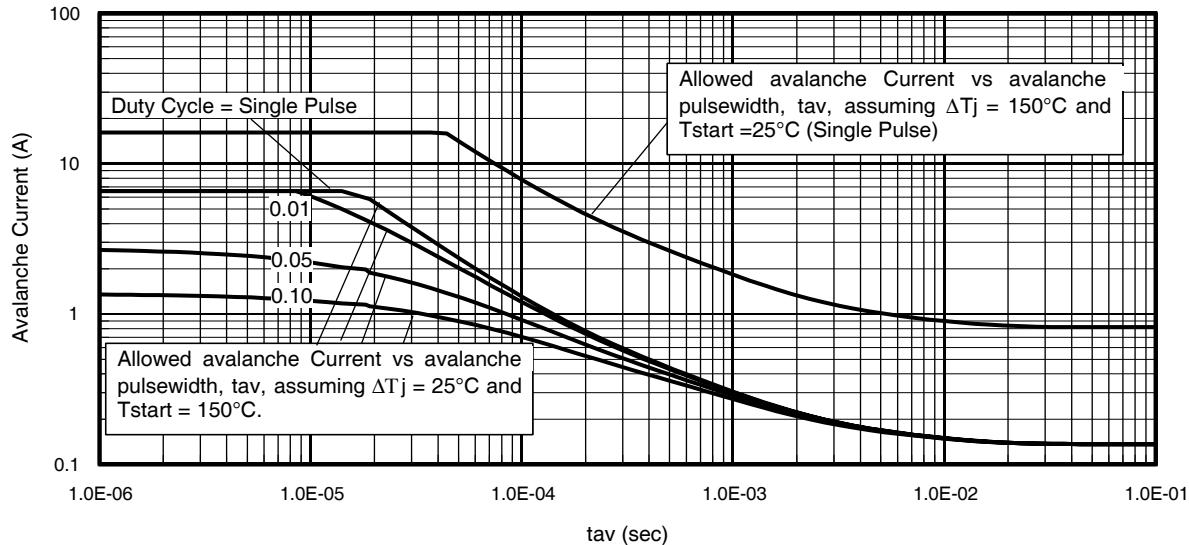

Fig 14. Typical Avalanche Current Vs. Pulsewidth
- ① Repetitive rating; pulse width limited by max. junction temperature.
② Starting $T_J = 25^\circ\text{C}$, $L = 1.46\text{mH}$, $R_G = 25\Omega$, $I_{\text{AS}} = 10\text{A}$.
③ Pulse width $\leq 400\mu\text{s}$; duty cycle $\leq 2\%$.
④ R_θ is measured at T_J of approximately 90°C .
⑤ Limited by $T_{j\text{max}}$. See Figs. 14, 15, 17a, 17b for repetitive avalanche information
Notes on Repetitive Avalanche Curves , Figures 14, 15:
7. ΔT = Allowable rise in junction temperature, not to exceed T_{jmax} (assumed as 25°C in Figure 14, 15).